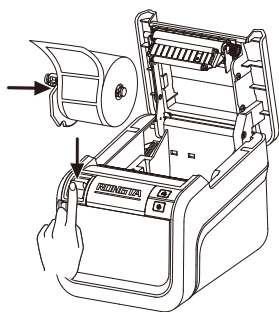

Figure 1
- 1) Press the cover lever, open the paper storage room cover, make sure the paper roll print face forward, and put the paper roll into the paper roll (as shown in Figure 1 below).